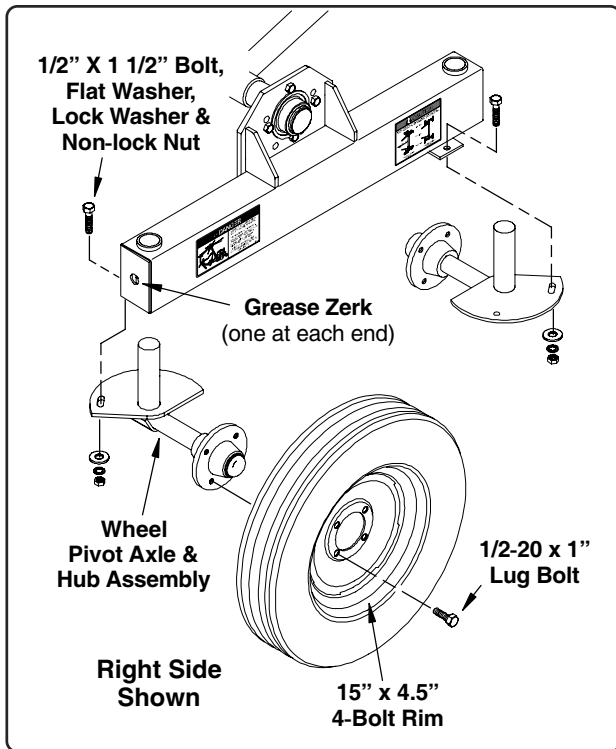

Fig. 2
3. With the swivel axle mounted to the conveyor axle hub, install the wheel pivot axle and hub assemblies. Insert the pivot wheel shaft into the swivel axle tube as shown in Fig. 2. Secure the pivot assemblies using one 1/2" x 1 1/2" bolt, flat washer, lock washer and non-lock nut (the flat washer will go against the slotted hole. The round hole is used for transport, the slotted hole is used only when swinging the conveyor in an arc. Fig. 2 shows the pivot assemblies being secured to the slotted hole).
4. After the wheel pivot axles have been installed, lubricate the pivot shafts using a good quality lithium based grease. The grease zerks (lubrication fittings) are accessible through the opening at each end of the swivel axle (See Fig. 2).